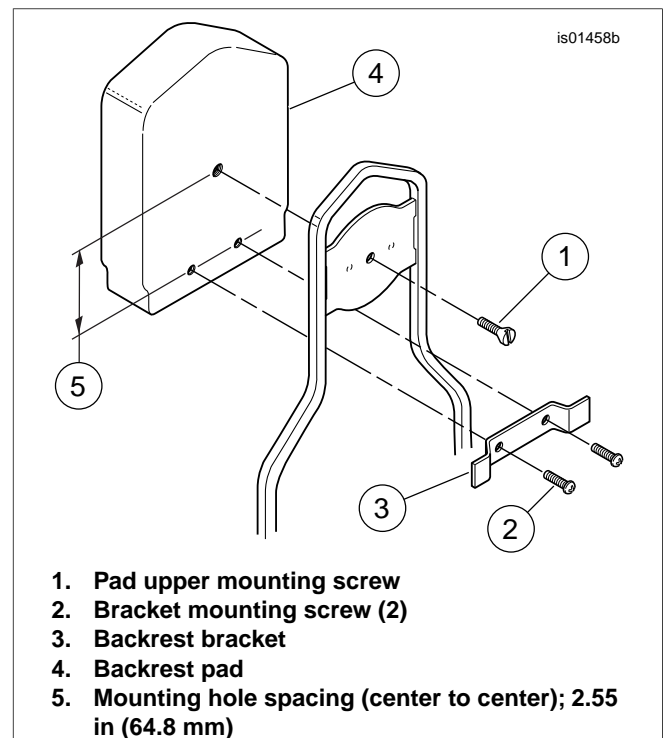

Figure 1. Backrest Pad and Bracket
See Figure 1. To provide clearance for the lamp in this kit, backrest pads with mounting holes (5) spaced 2.55 in (64.8 mm) center to center require purchase of a Backrest Mounting Bracket Kit (Part No. 59545-04). This mounting bracket replaces the existing backrest mounting bracket (3).
2. See Figure 1. Remove and retain the screw (1) securing the backrest pad to the plate.
3. Remove and retain the two screws (2), backrest bracket (3) and backrest pad (4).
3. **For backrest pads with mounting holes spaced 2.55 in (64.8 mm) center to center** (as shown in Figure 1, Item 5): See Figure 4.